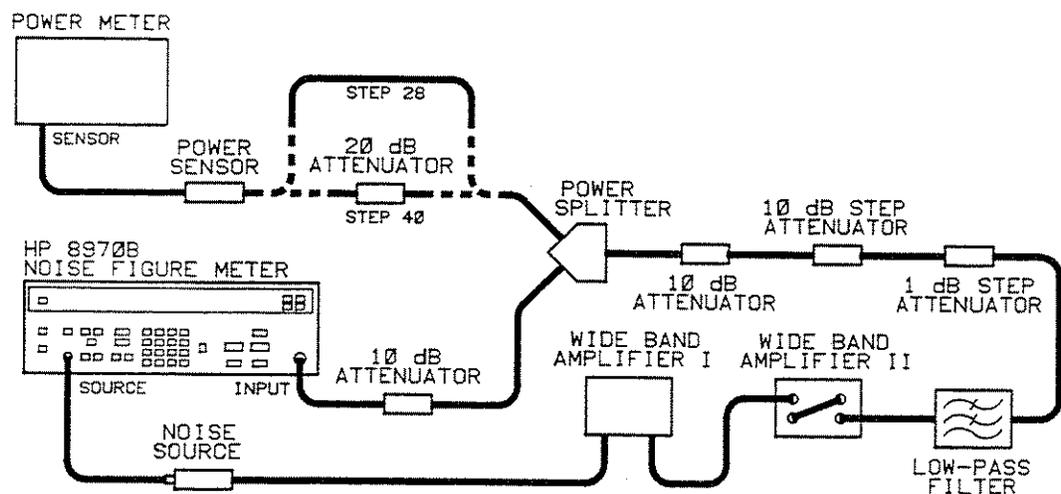

Figure 4-4. Gain Measurement Uncertainty Test Setup
- 28. Connect the equipment as shown in Figure 4-4.